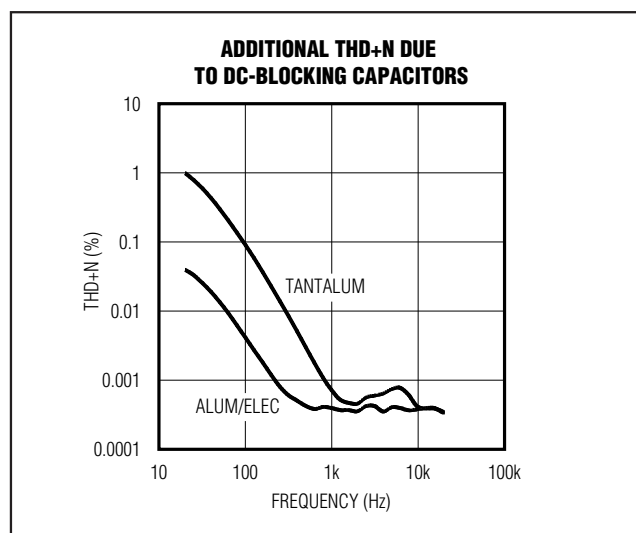

Figure 3. Distortion Contributed by DC-Blocking Capacitors
2) The voltage coefficient of the DC-blocking capacitor contributes distortion to the reproduced audio signal as the capacitance value varies and the function of the voltage across the capacitor changes. The reactance of the capacitor dominates at frequencies below the -3dB point and the voltage coefficient appears as frequency-dependent distortion. Figure 3 shows the THD+N introduced by two different capacitor dielectric types. Note that below 100Hz, THD+N increases rapidly. The combination of low-frequency attenuation and frequency-dependent distortion compromises audio reproduction in portable audio equipment that emphasizes low-frequency effects such as in multimedia laptops, MP3, CD, and DVD players. By eliminating the DC-blocking capacitors through DirectDrive technology, these capacitor-related deficiencies are eliminated.